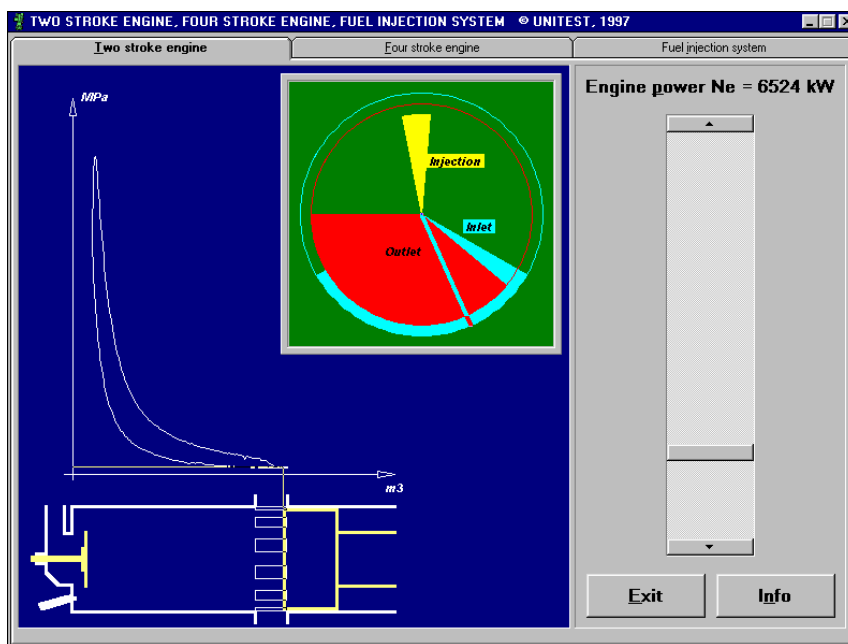

Fig. 1 Two - stroke engine diagram
1. Two - stroke engine/fig. 1/